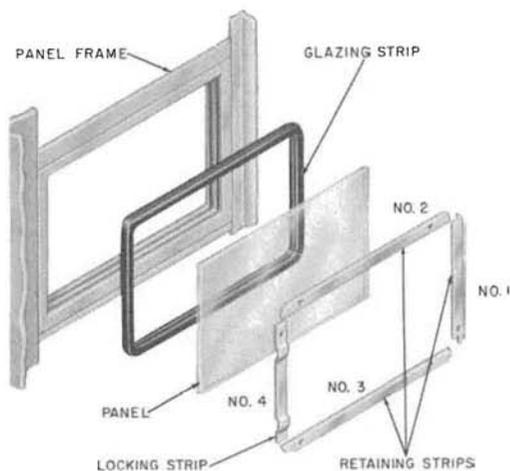

Fig. 24—Assembly of Side or Rear Panels
4.19 Both panels and signs are held in place by four interlocking retaining strips inserted in sequence as shown in Fig. 24. The No. 4 strip is rippled and is held in place by interface friction. Refer to Table E for retaining strips.
- (7) Replace retaining strips in sequence as shown in Fig. 24.